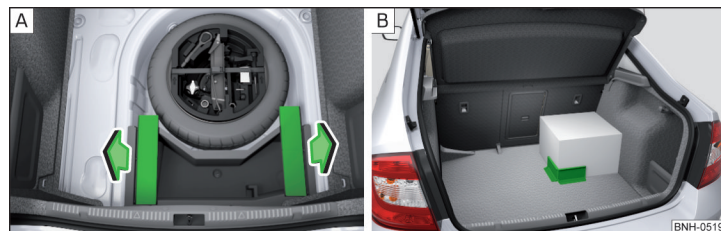

Fig. 81 Removing cargo elements / example on how to mount the load by means of the cargo element
- » Remove the cargo elements in direction of arrow » Fig. 81 - **A**.
- » Secure the cargo element with Velcro on the floor covering of the luggage compartment » Fig. 81 - **B**.